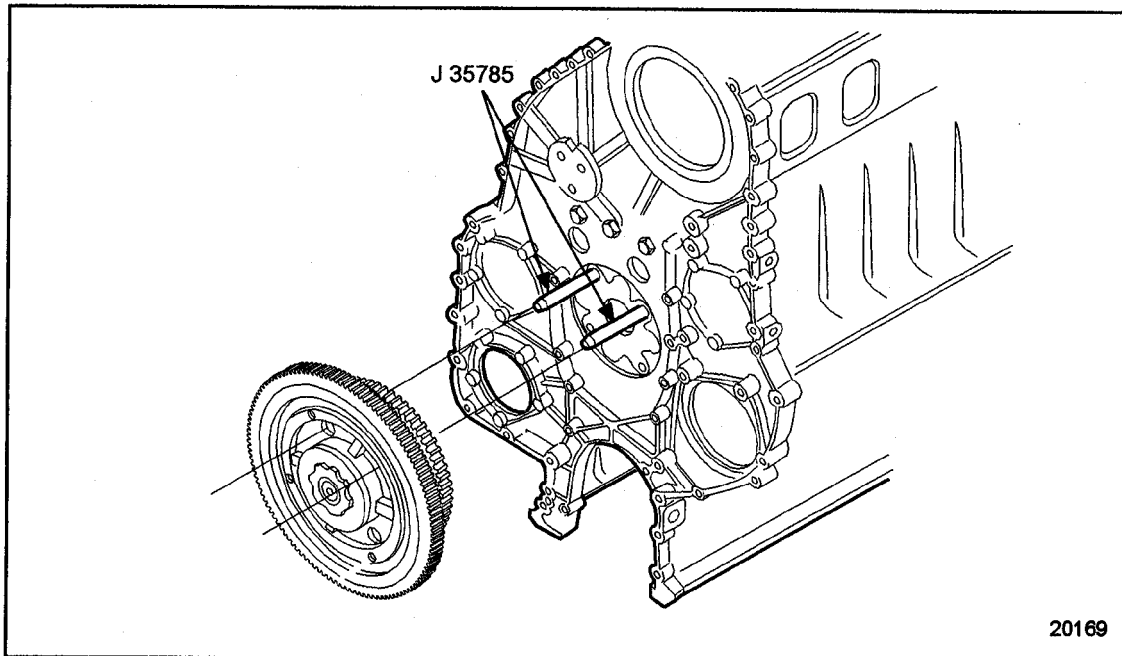

Figure 1-201 Bull Gear Guide Stud Installation
15. Install two bull gear guide studs, J 35785 to the cylinder block. See Figure 1-201.